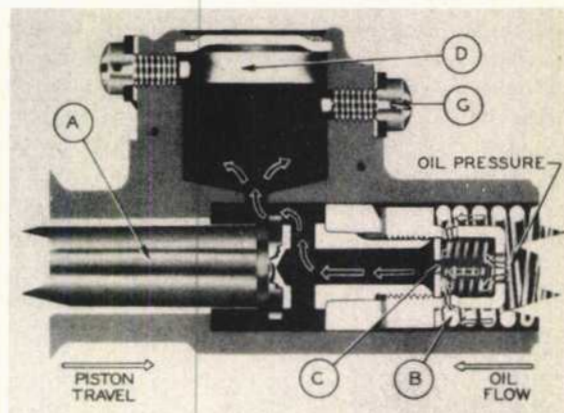

Figure 6—Hydraulic Shock Unit Recoil Stroke
(2) RECOIL STROKE.—The gun recoil (figure 6) actuates piston (A), which compresses the special recoil spring (B) and develops oil pressure behind the
a. Should it become necessary to replenish oil supply in shock units, use hydraulic fluid, Specification No. AN-VV-O-366b. To add oil, remove filler plug (G, figure 6) at rear of oil reservoir and using a common oil can, add fluid to overflow level.